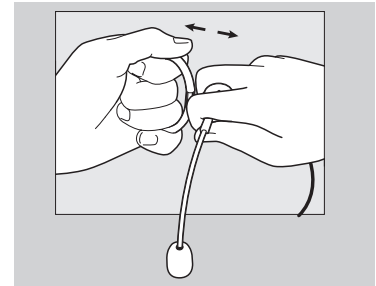

Figure 4-2. Loop Disassembly.
1. Rotate the boom 90° (see Figure 4-2).